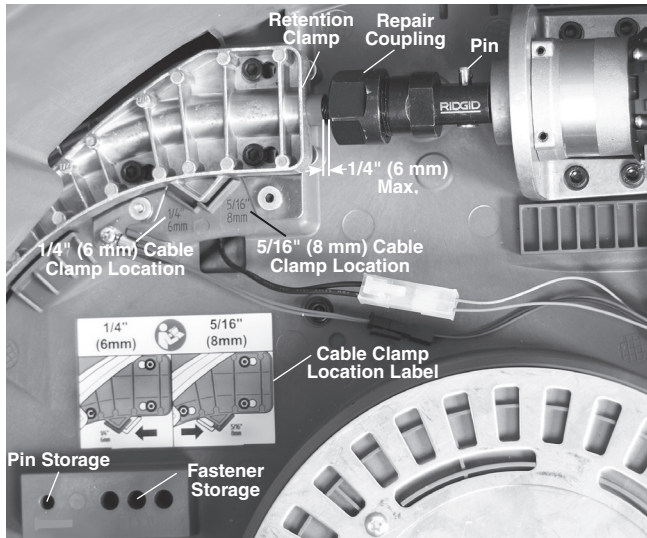

Figure 21 – Milling Machine Housing Opened
14. Open machine following the information in the Cable Assembly Replacement section. Check for and wipe up any lubricant that may have leaked into the cable clamp/cable end area (*Figure 21*).
4. Remove the cable retention clamp fasteners and retention clamp (*Figure 21*). A space is provided near the cable clamp to store the three clamp fasteners and cable pin.
7. Reverse process to assemble. Ensure cable sheath covers cable. No more than 1/4" (6.4 mm) of cable should be exposed (*see Figure 21*).
Confirm correct cable clamp position while installing cable. If changing from 1/4" (6mm) to 5/16" (8mm) cable or vice versa the clamp position changes. *See Figure 21*. The correct cable clamp position is important for proper I-Clutch system. The I-Clutch system setting is adjusted by cable clamp location.